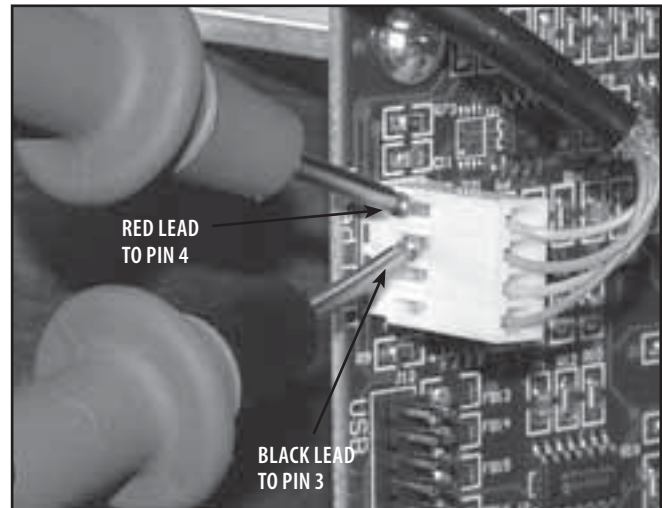

FIGURE 5.23
1. Set Multimeter to read 10 VDC. Make connection with Pin 3 (Blue wire) and Pin 4 (Green wire) from the side of the connector with Multimeter Leads. See Figure 5.23.